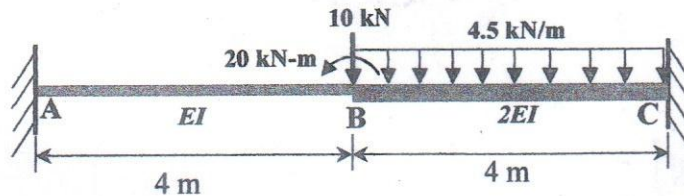

Fig.6
6. Determine all the reactions at supports of the beam shown in Fig.6 using the stiffness method. Also, draw the shear force and bending moment diagrams. Flexural stiffness of member AB is EI and member BC is $2EI$. (25)